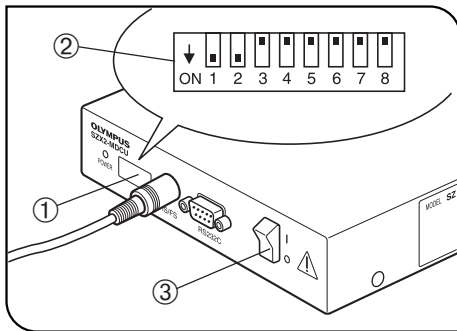

Fig. 1
3. Set the DIP switch. (Fig. 1)